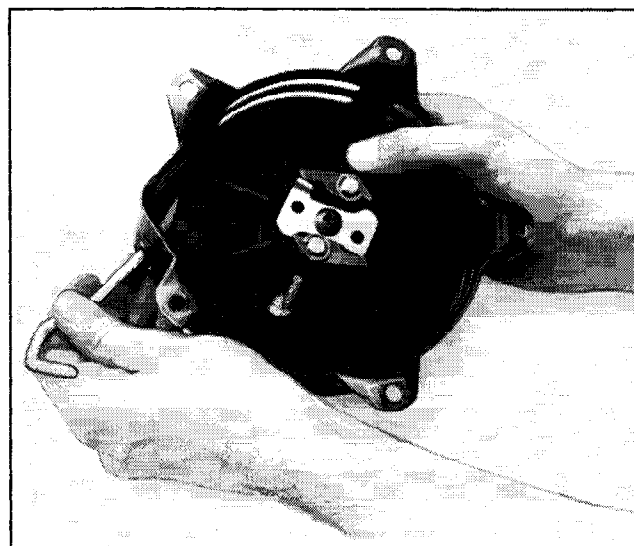

Figure 7-6. Releasing Spring Tension.
4. Hold the pulley firmly with thumb and untie the slip knot. Allow the pulley to rotate **slowly** as the spring tension is released. Refer to Figure 7-6.
4. Hold the pulley firmly with thumb and untie the slip knot. Allow pulley to rotate **slowly** as the spring tension is released. Refer to Figure 7-6.